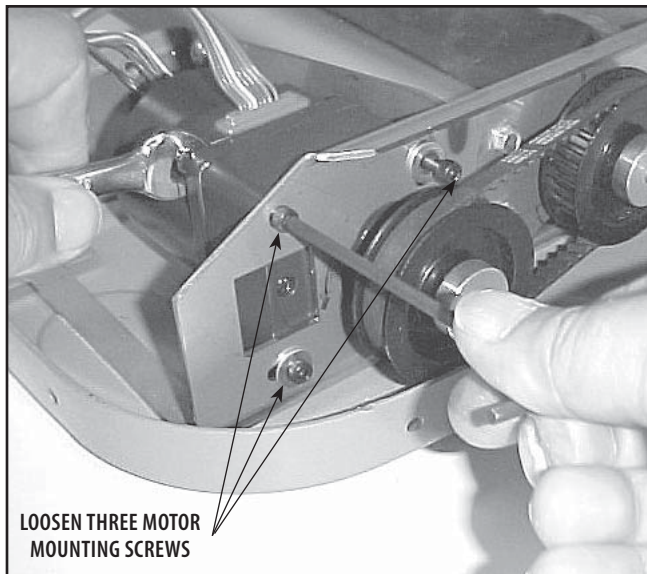

FIGURE 6.4
2. Using a 9/64" Allen wrench loosen the three Motor Mounting screws. **Refer to Figure 6.4.**